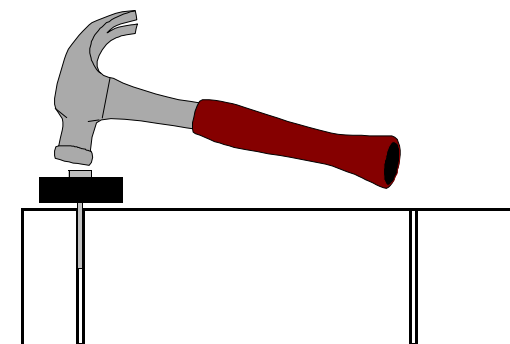

FIGURE 7
2. Sometimes the wood block will split when the axles are inserted into the axle slots. To prevent this from occurring after you have built the car, place the block on its side, insert an axle into a wheel, and use a hammer to *gently* tap the axle into one slot (see Figure 7). Pull the axle back out of the slot by hand and repeat the process for the other three slot positions. If the wood block splits, exchange the car kit, or purchase a new block at a hobby store.